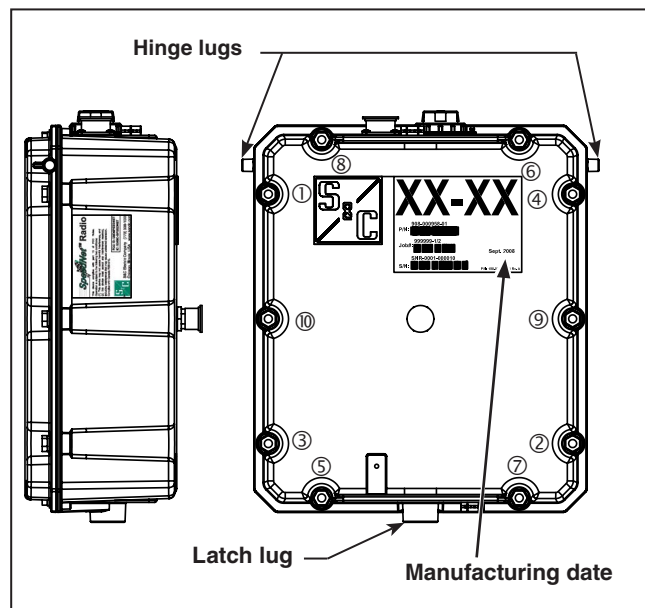

Figure 5. SpeedNet Streetlight-Mounted Repeater Radio.
SpeedNet Repeater Radios manufactured after February 2009 have a factory installed battery disconnect cable. Date of manufacture is shown on the serial number label on the outside of the enclosure. See Figure 5 on page 2. Follow these instructions to install a battery disconnect cable and new battery:
- (b) The bolt pattern of the cover is symmetrical. To avoid installing the cover upside down, install the cover with the hinge lugs facing away from the latch lug on the enclosure. See Figure 5.
- (c) Install and tighten the 10 cover bolts in a side-to-side pattern to compress the gasket evenly. Tighten to a torque of 25 +/- 5 inch-pounds. Use the bolt-tightening sequence numbers shown in Figure 5.